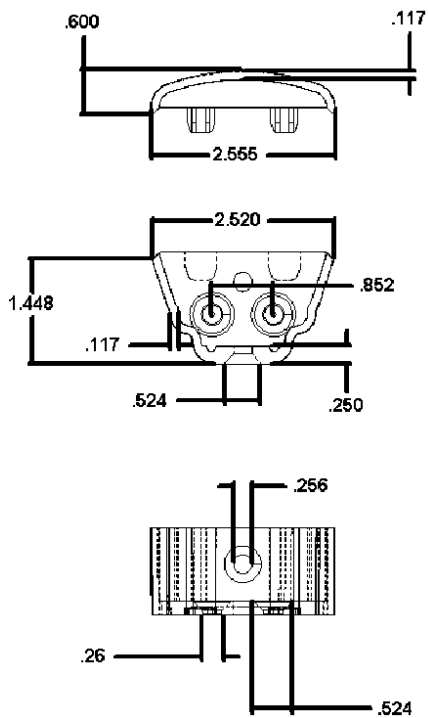

Figure 15 – Franklin Top Rail Bracket
5.1. The *Ultra Max*, *Ultra Advantage*, *Ultra Deck-Over*, *DekPro Prestige*, and *Coastal Aluminum* railing systems top and bottom rails are attached directly to structural posts utilizing cast aluminum mounting brackets via mechanical fasteners. See Figures 15 to 17 and Table 2 Fastening Schedule.